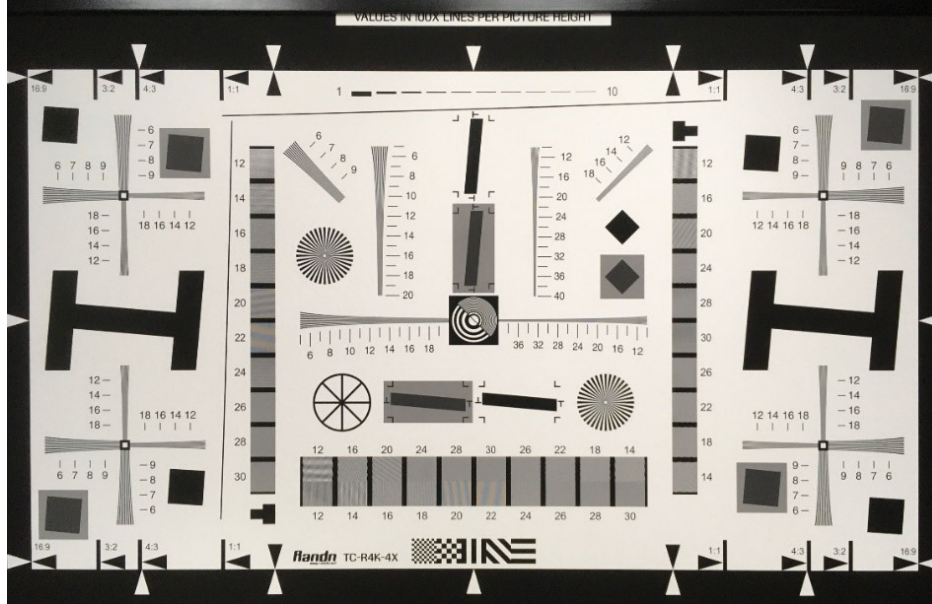

Fig. 4.5: Resolution Card Diagram
Step 1. First, tune the Demosaic parameters for the resolution card using the lab light box under the condition of ambient D50 light source and ISO100 until the objective requirements are met. Next, using this set of Demosaic parameters, we observe whether the lab still scene under ISO100 still meets the requirements, such as whether its high-frequency details can be interpolated, and we iterate back and forth to observe and tune it. Fig. 4.5 is a resolution card diagram. Please refer to section 5.8.1 “Demosaic Tuning Method” for specific tuning methods for Demosaic.